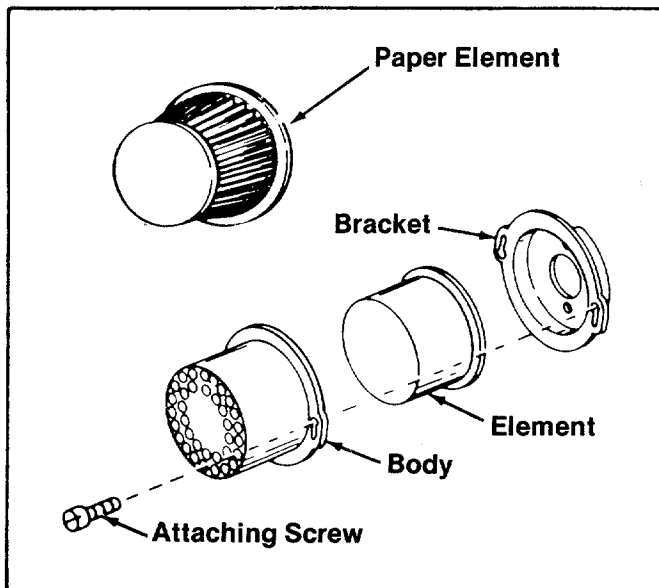

FIGURE 17.
4. Air Cleaner. (See figure 17.)